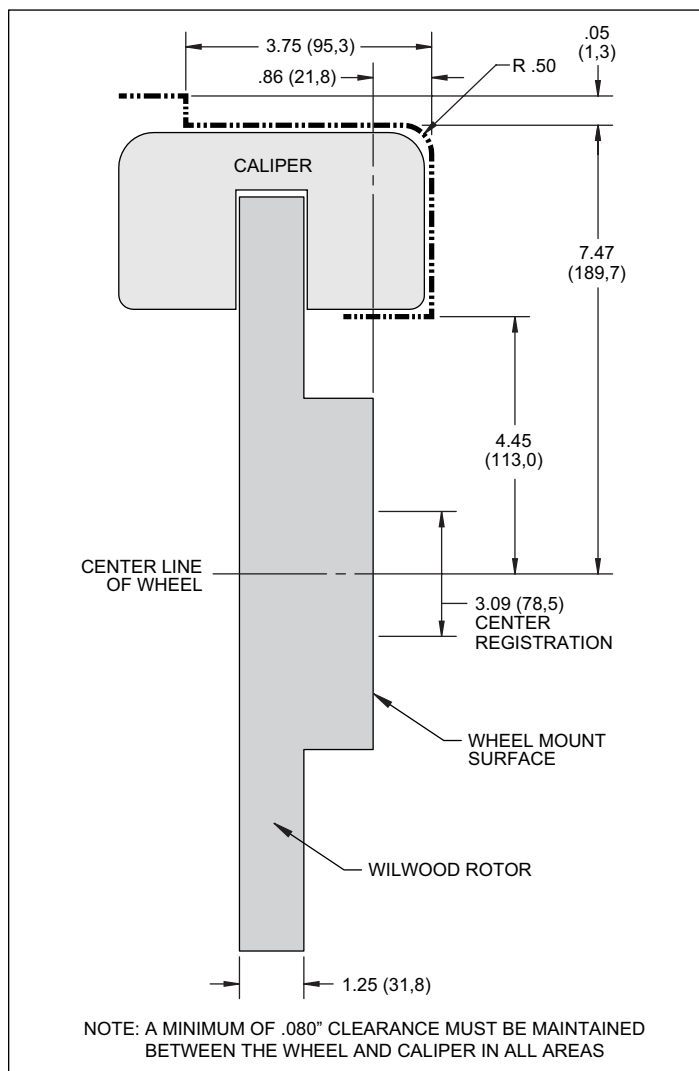

Figure 2. Wheel Clearance Diagram
- Review the wheel clearance diagram (Figure 2, page 3) to verify that there is adequate clearance with the wheels you will be using with the installation.
- Verify your wheel clearance using Figure 2.